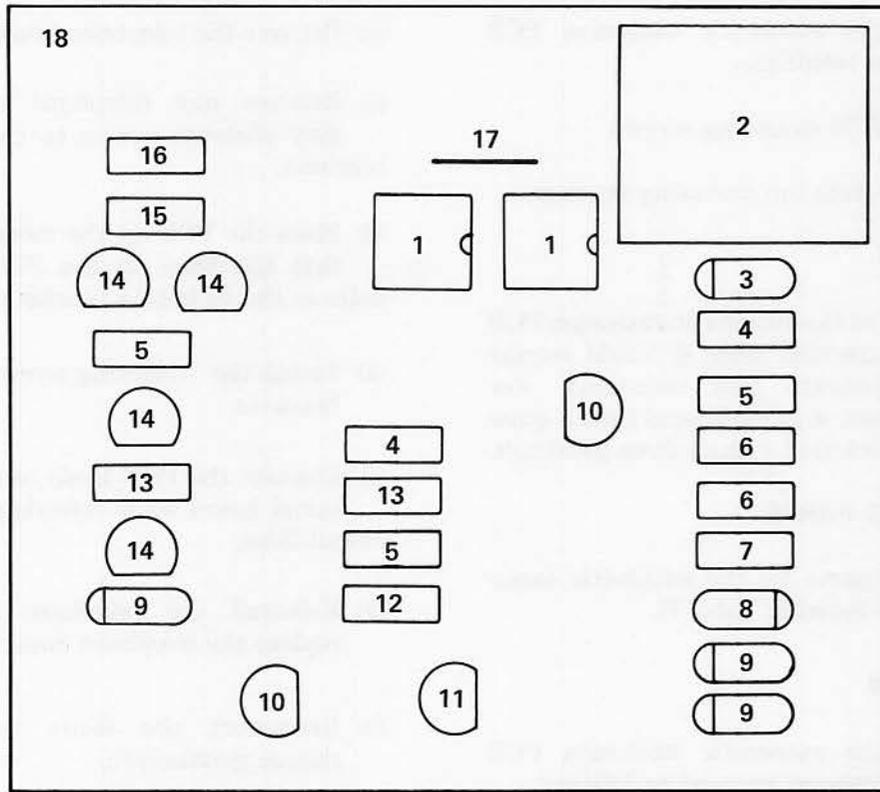

Figure 3: Model 182386 Automatic Exclusion PCB, Component Location
2.03 The automatic exclusion circuit is a printed circuit assembly. (See Figure 3.) It is designed for field replacement; it is mounted on brackets using screws. The PCB is connected to the telephone circuit using spade-tip connectors.